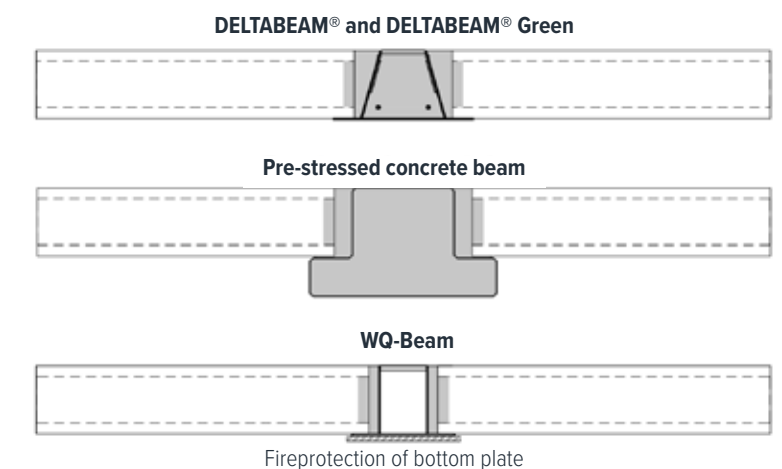

FIG. 6 BEAM TYPES USED IN THE COMPARISON
Based on available official EPD data, Peikko has made sample calculations for a real office building that has been built. The project involves 10 floors, a floor space of roughly 20,000 m², and over 500 beams delivered. In this comparison, one floor with 41 beams was used to calculate the amount of CO₂ emissions. The building frame is of beam-column type with precast staircases and sandwich walls. The compared beams are steel box beam (WQ), pre-stressed concrete beam, standard DELTABEAM® and DELTABEAM® Green. Examples of cross-sections of the different beams are shown in Fig. 6.